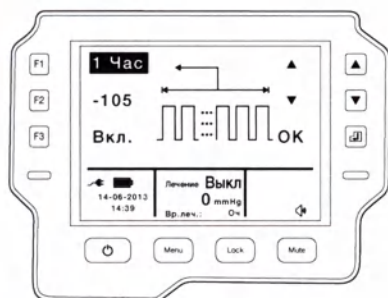

Fig. 14.
1. On the main menu screen, press F2 to select <Intermittent> and enter into intermittent therapy setting (Fig. 14).